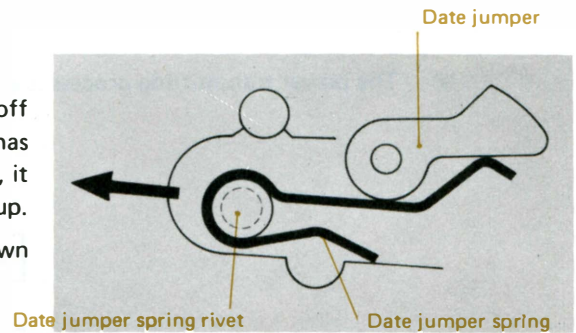

Fig. 13
(6) Date jumper spring
- In case of assembly, set the date jumper spring as shown in Fig. 13 and move it to its former position.